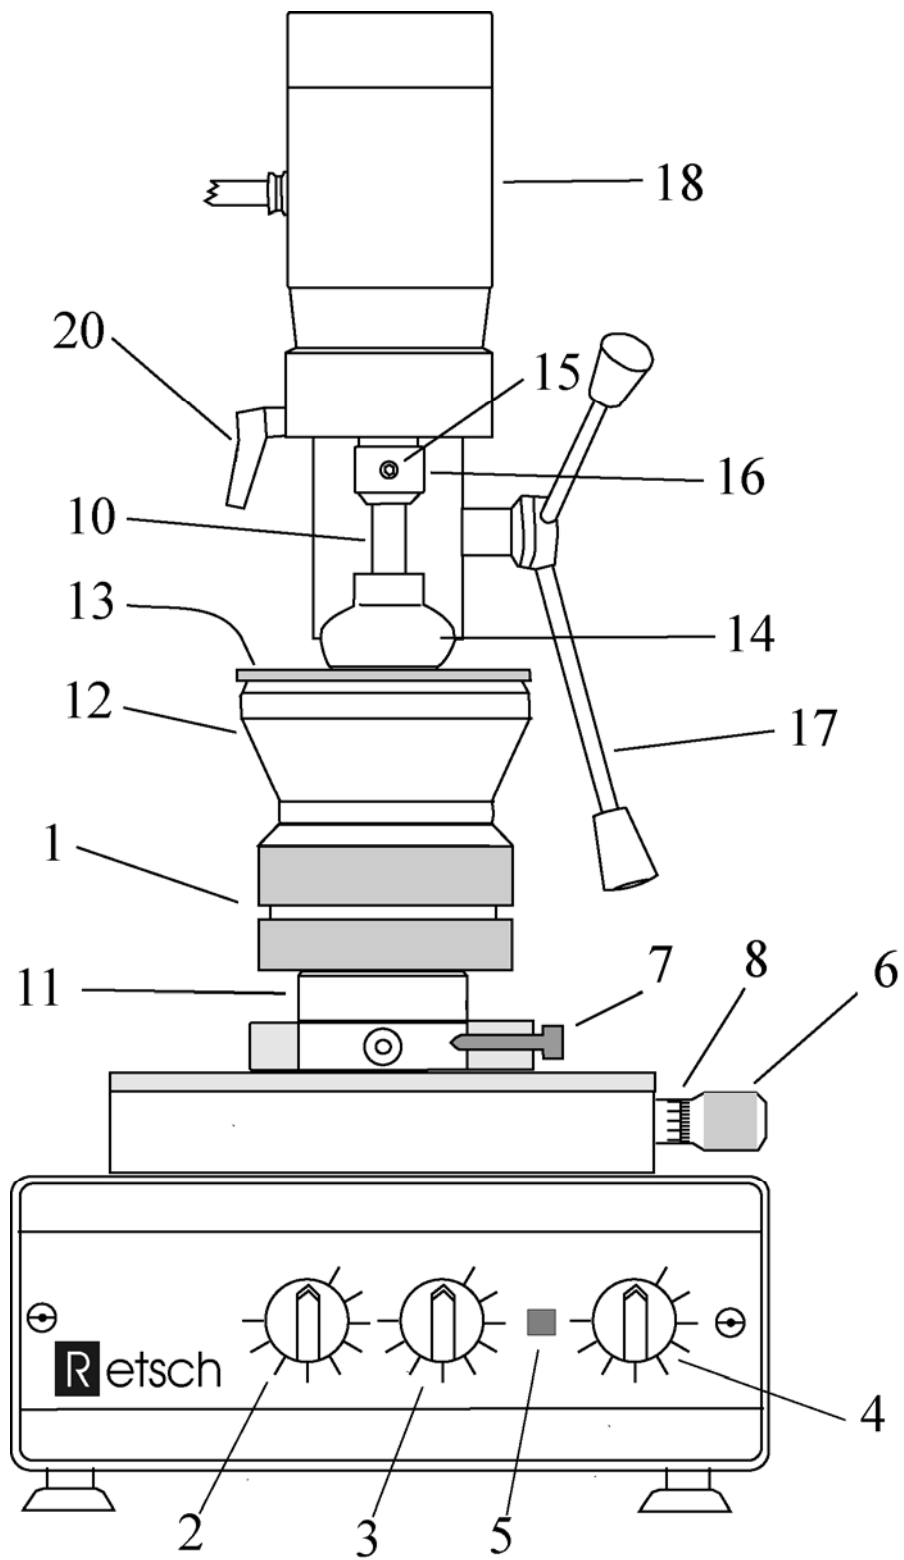
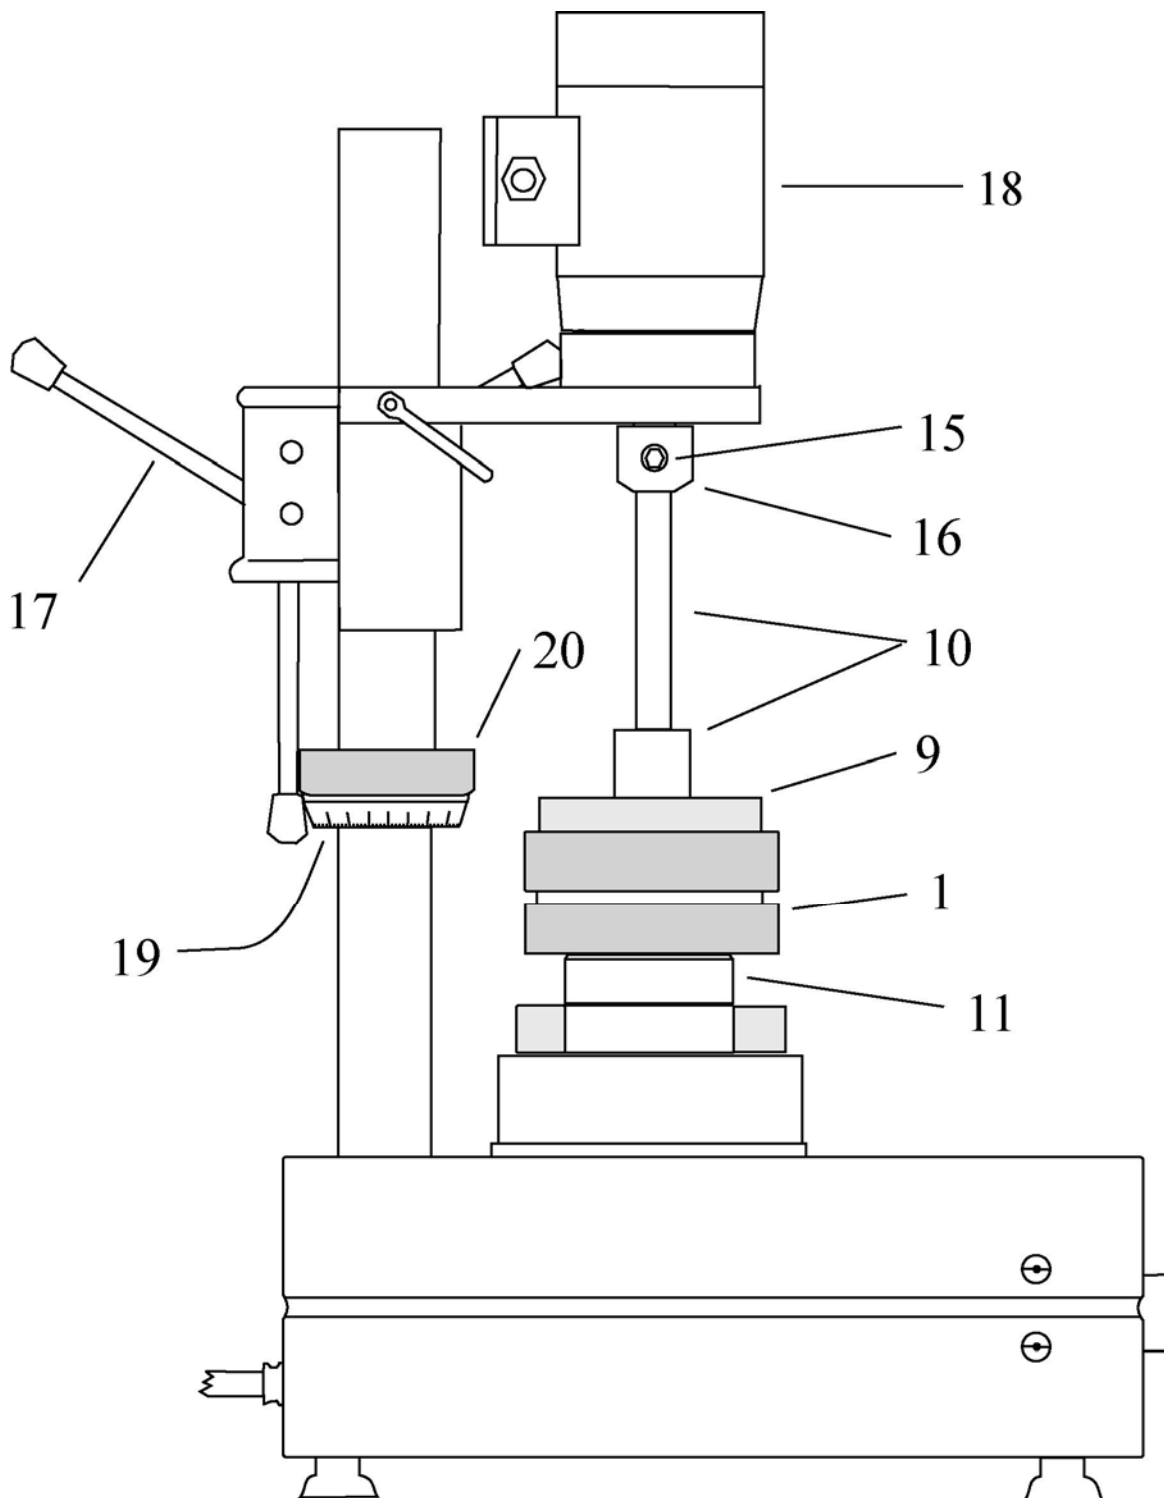

Figure1. Front-view of Retch/Brinkmann MRM (with plexiglas mortar cover installed) showing parts referred to in text.
Figure 2. Side-view of Retch/Brinkmann MRM (without plexiglas mortar cover) showing parts referred to in text.
In the description of the instrument that follows, the numbers (in parentheses) refer to the numbers on the accompanying drawings ***located at the end of this document*** labeling various parts of the MRM. Figure 1 is a front view of the instrument (with the Plexiglas mortar cover installed) and Figure 2 is a side view (without the Plexiglas cover). The numbers refer to the parts, and not all parts appear on both drawings.
From the mortar table upward, is the mortar holder (1), mortar (9), and pestle (10). The mortar is precisely machined to fit snugly into the mortar holder and engage with it by means of a driving pin in the holder (11). To facilitate the addition of a liquid grinding medium to the powder during grinding, the Plexiglas mortar cover sleeve (12), mortar cover (13) and rubber mortar cover gasket (14) as shown on Figure 2 are normally ***not*** installed.